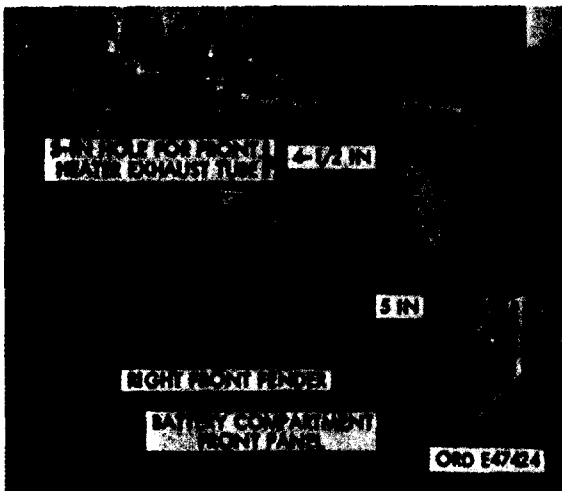

Figure 635. Front heater exhaust tube hole
- (1) Remove the 3-inch knockout plug from battery compartment front panel (fig. 635). If there is no knockout plug, cut out a 3-inch hole, using the dimensions shown (fig. 635).